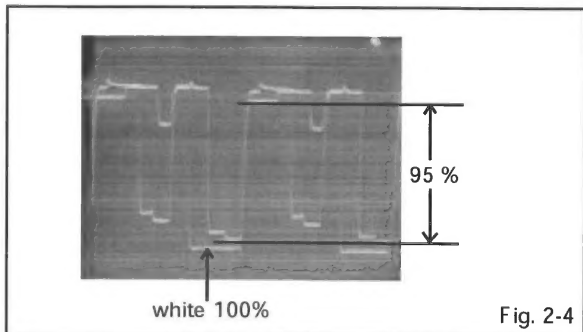

Fig. 2-4
17. Press the VOL. UP/DOWN button on the remote control until the red color level is adjusted to $95 \pm 5\%$ of the white level. (Refer to Fig. 2-4)